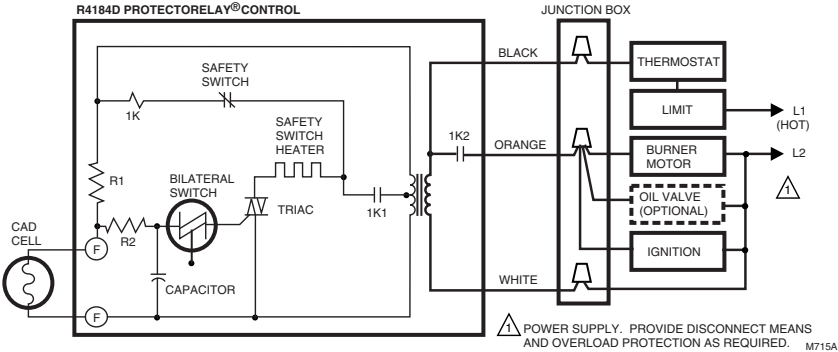

Fig. 3. Typical hookup for R4184D.
- 2. Make the line voltage connections as shown in Fig. 3 through 9.
- R4184D—connect the cad cell leads to the F-F terminals. See Fig. 3.